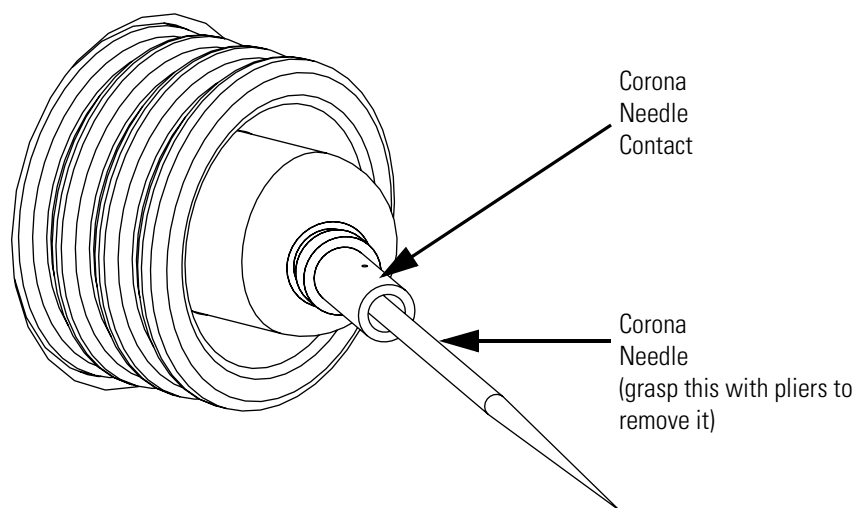

Figure 7. Corona needle, view from inside of the Ion Max housing
- c. The corona needle is in the corona assembly which is inside of the ion source housing. Using pliers, grasp the corona needle and pull it straight out of the corona needle contact (see Figure 7).